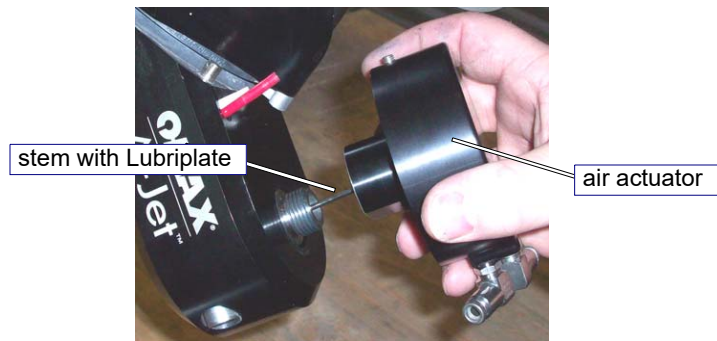

Figure 50
- Thread the **retaining screw** into the top of the **inlet body** (Figure 50):